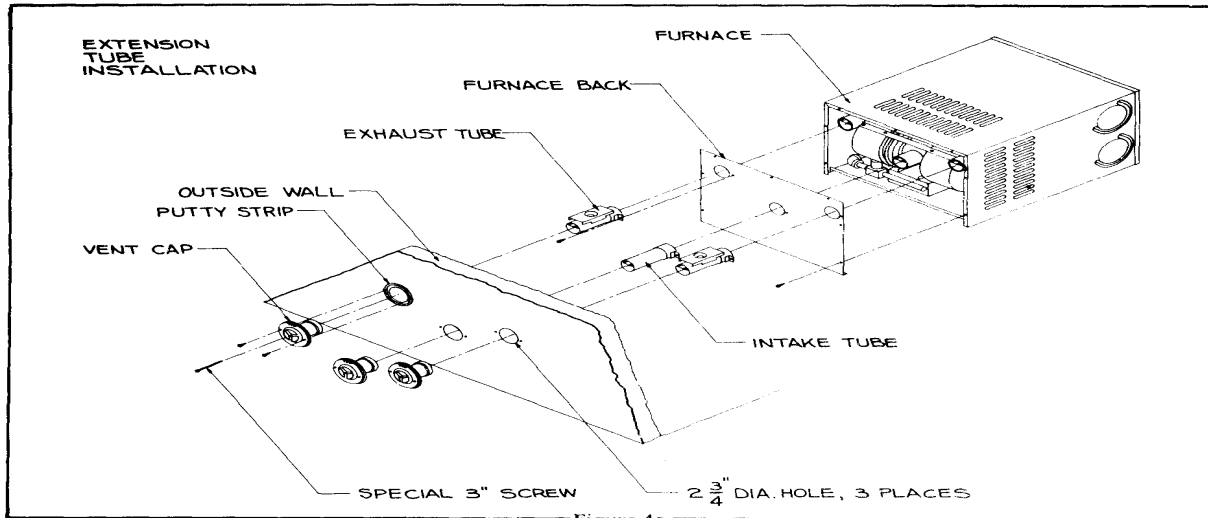

Figure 4
C-Installation Using Vent Extension Tubes (See Figure 4)
3-Cut three (3) 2 1/4" diameter holes through outer skin. (See Figure 4.)
10-Installing vent assembly as shown in Figure 4.